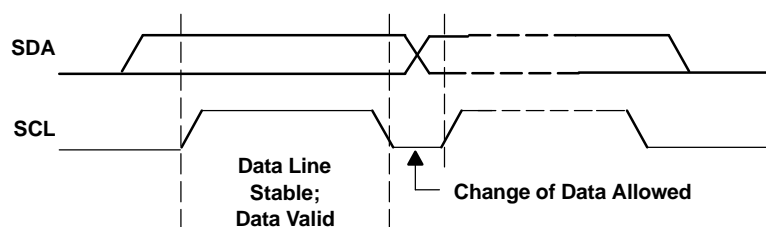
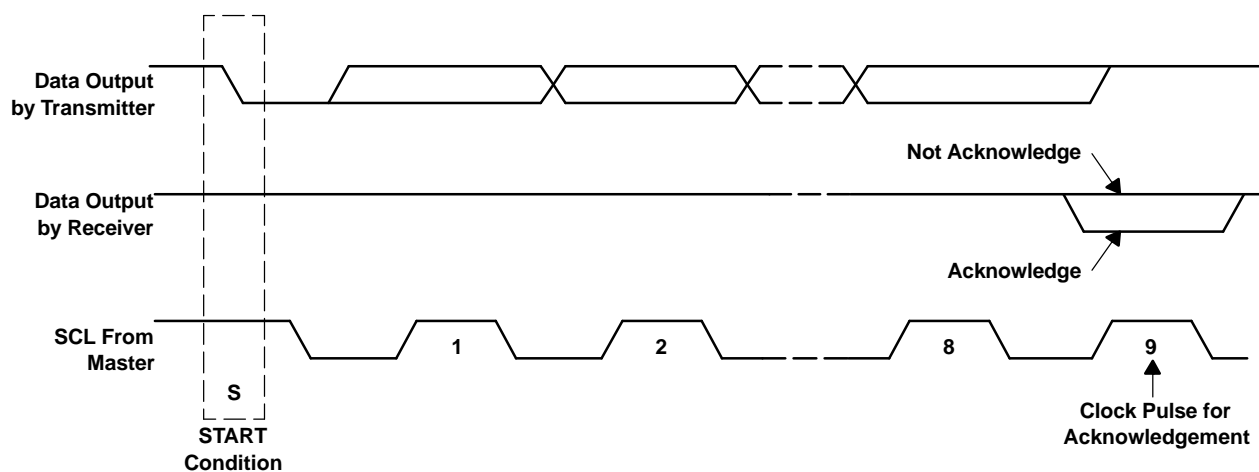

Figure 32. Bit Transfer on the I²C Bus
Figure 33. Acknowledge on the I²C Bus
- The master then generates the SCL pulses, and transmits the 7-bit address and the *read/write direction bit* R/\overline{W} on the SDA line. During all transmissions, the master ensures that data is *valid*. A *valid data* condition requires the SDA line to be stable during the entire high period of the clock pulse (see Figure 32). All devices recognize the address sent by the master and compare it to their internal fixed addresses. Only the slave device with a matching address generates an *acknowledge* (see Figure 33) by pulling the SDA line low during the entire high period of the 9th SCL cycle. Upon detecting this acknowledge, the master knows that communication link with a slave has been established.